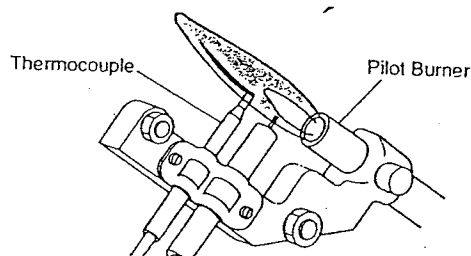
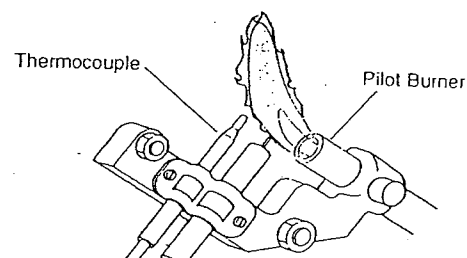
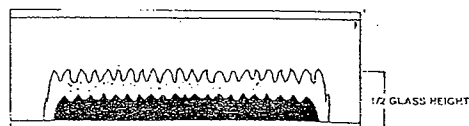
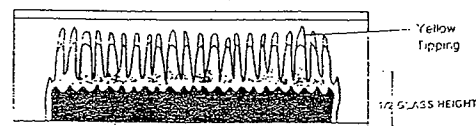

Figure 15
Figure 16
Figure 17
Figure 18
Figure 15 shows a correct pilot flame pattern. Figure 16 shows an incorrect pilot flame pattern. The incorrect pilot flame is not touching the thermocouple. This will cause the thermocouple to cool. When the thermocouple cools, the heater will shut down.
If pilot flame pattern is incorrect, as shown in Figure 16
Figure 17 shows a correct burner flame pattern. Figure 18 shows an incorrect burner flame pattern. The incorrect burner flame pattern shows yellow tipping of the flame. It also shows the flame higher than 1/2 the glass panel height.
If burner flame pattern is incorrect, as shown in Figure 18
3. Periodic visual check of burner and pilot flame should be done. Burner and pilot should appear as shown in Figures 16 and 17 on page 17. If the flame appears as shown in Figures 18 and 19 on page 17, shut the heater off and contact a qualified service person or your local dealer.